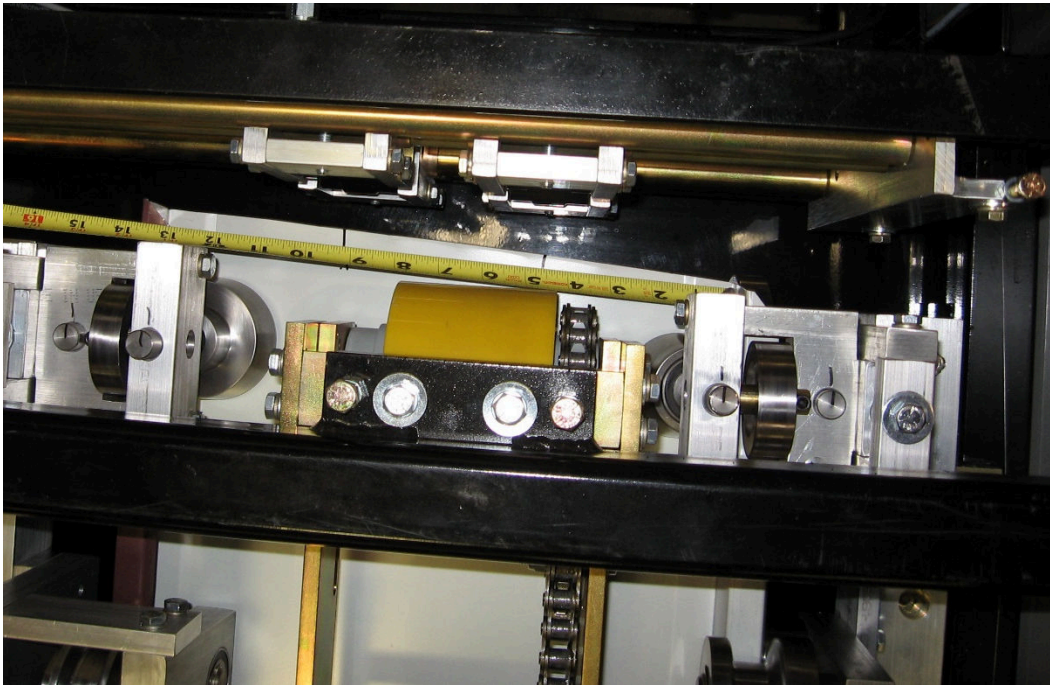

Figure 73: Spacing Bead Rollers
22. If the panel requires beads, determine the spacing needed. For Example: a 12” wide panel with 2 beads centered on the panel would give 3 equal spaces or 12” divided by 3, which equals 4” from center to center of each bead. **Shut the machine off and lock it out**, then hook the end of a tape measure on the outside bottom corner of the female leg. Use a magic marker or grease pencil to mark the 4” and 8” locations on the panel. There will now be 3 equal spaces. (Figure 73)